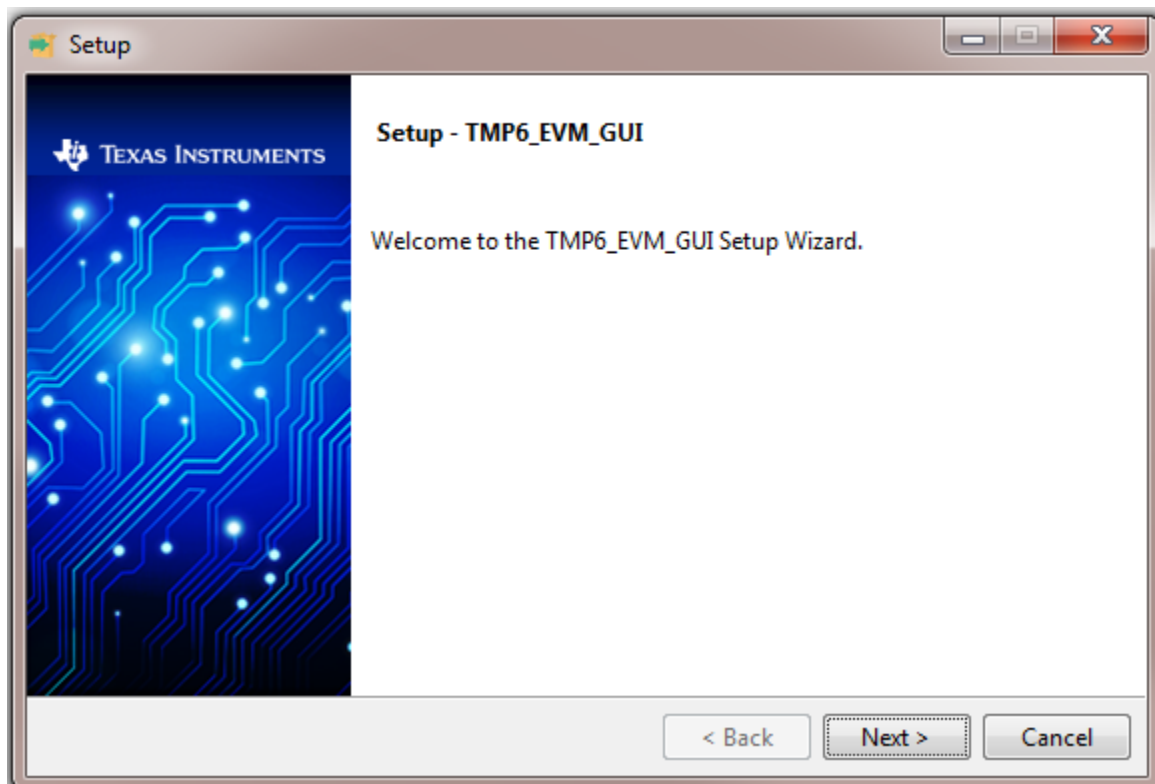

Figure 15. TMP6 EVM GUI Installation Wizard
2. Unzip the downloaded file into a known directory and run the *TMP6_EVM_GUI-1.0.0.setup-win_6.1.1.exe* file. The EVM software installer then begins the installation process, as shown in Figure 15.